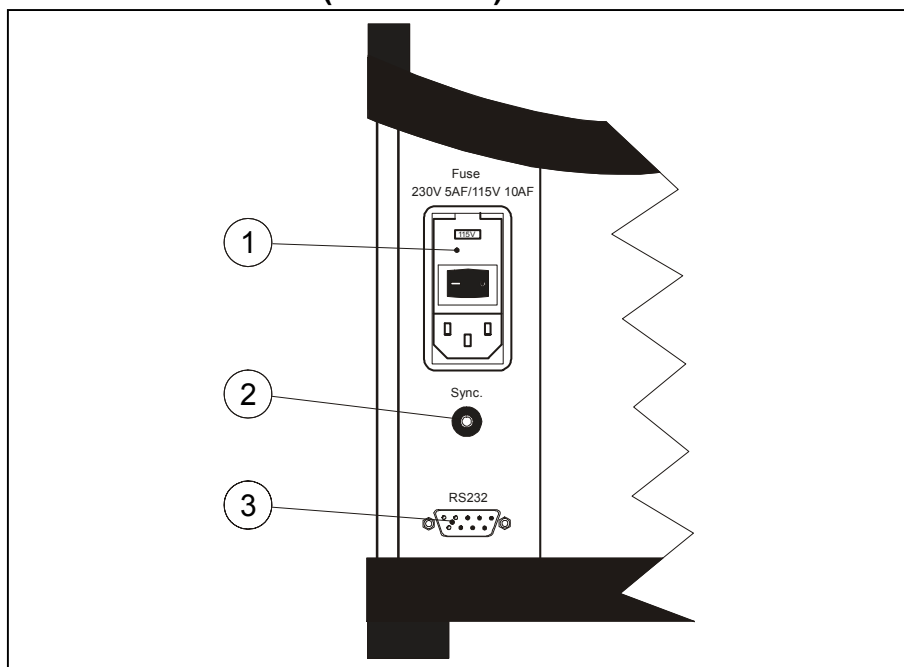

Fig. 5
Switch on the calibrator using the power control switch (pos. 1 in fig. 5). The start up menu is displayed for approximately 2 seconds and is then replaced with the main menu screen: